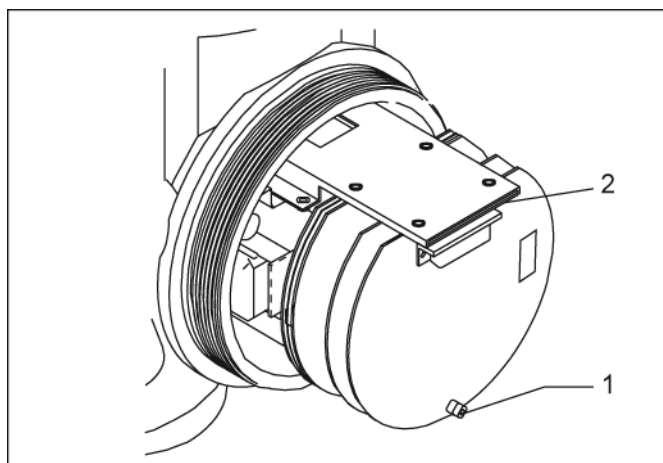

Figure 5.4 Locking latch
- Remove the PCB retaining screw (B), slide the locking latch (A) on the XPU board to the right (refer to figure 5.4).